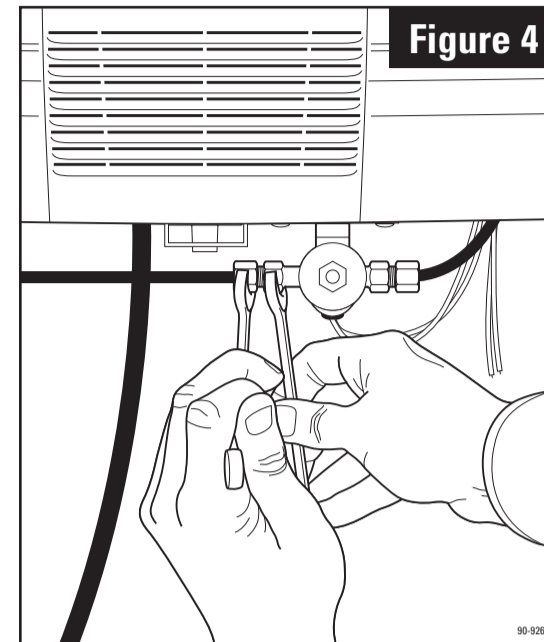

Figure 4
**9.** Connect tubing from the saddle valve to the inlet side of the solenoid valve using 1/4" O.D. copper tubing (not furnished). **DOUBLE WRENCH TO PREVENT LEAKING! (See Figure 4)**